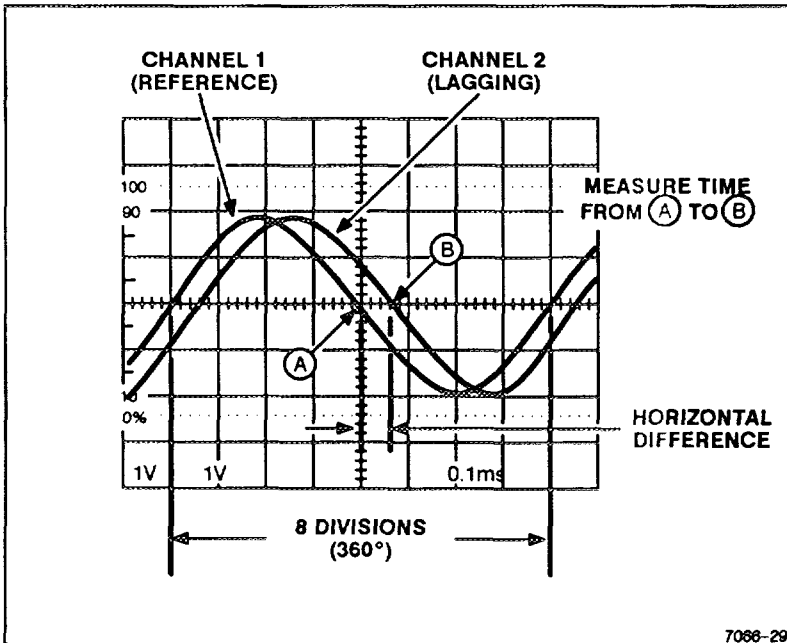
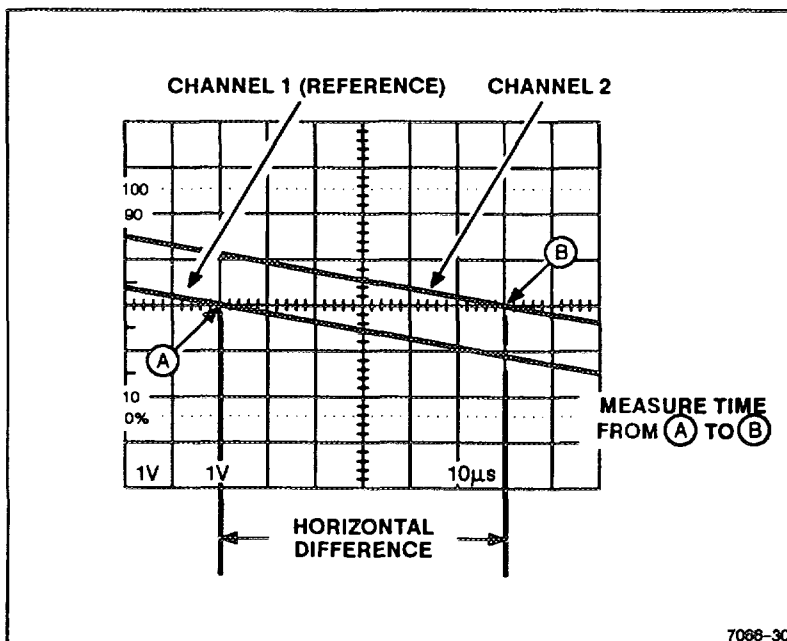

Figure 6-8. Phase difference.
Figure 6-9. High-resolution phase difference.
9. Position the displays and adjust the SEC/DIV Variable control so that one reference-signal cycle occupies exactly eight horizontal graticule divisions at the 50% rise-time points (see Figure 6-8). Each division of the graticule now represents 45° of the cycle ($360^\circ \div 8$ divisions), and the horizontal graticule calibration can be stated as 45° per division.
EXAMPLE: The horizontal difference is 0.6 division with a graticule calibration of 45° per division as shown in Figure 6-8.
EXAMPLE: If the sweep speed were increased 10 times with the magnifier (X10 Magnifier out), the magnified horizontal graticule calibration would be 45°/division divided by 10 (or 4.5/division). Figure 6-9 shows the same signals illustrated in Figure 6-8, but magnifying the displays results in a horizontal difference of 6 divisions between the two signals.